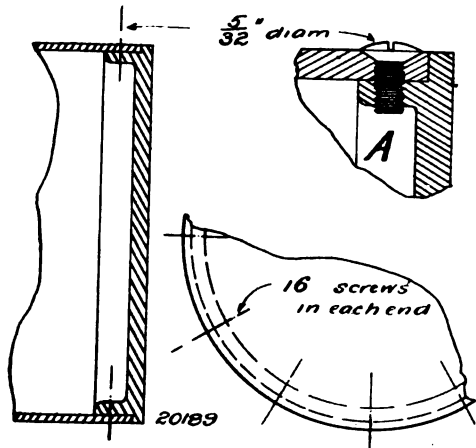
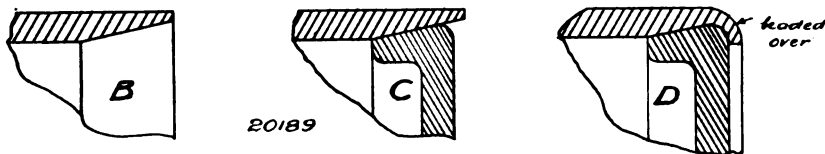

FIG. 2.—SECURING TURNED FLANGED CAST ENDS BY SCREWS.
FIG. 3.—FIXING BOILER ENDS.
a) Will the boiler stand 70 lbs. working pressure, with a 4-in.-diameter boiler, 3/64ths in. thick? (3) Will one Primus burner be enough for firing? (4) What should be water-level and size
We do not see why you should want the ends to be removable. If you obtain finished castings for the ends (Messrs. Stuart Turner, Ltd., Henley-on-Thames, and W. J. Bassett-Lowke & Co. Northampton, stock this size), you can have them turned as shown in Fig. 2, and to lessen the number of stays partly fix the ends by, say, about 16 brass screws, 5/32nds in. diameter, as shown at A, Fig. 2, sweating the joint with ordinary soft solder. About three stays, 5/32nds for 3/16ths-in. diameter, may then be used to prevent the bulging of the ends. Another method would be to turn or file the ends of the tube to a feather edge as at B, Fig. 3. Then turn the ends to correspond (as at C), and finally bead over the tube and sweat the joint as shown at D, Fig. 3, using three stays 1/4-in. diameter to secure the ends against possible accident. The beading-over may be done in the lathe or by hand with a hammer. (4) For 70 lbs. pressure use 1/16th-in. thick tube. (3) One "Primus" burner is not sufficient for 330 sq. ins. of heating surface, and if you do not require the power we would advise a slightly smaller boiler, say 3 ins. by 9 ins. fired by one burner. (4) The lowest water level should be one-third up the steam drum. The steam pipe should be 1/4-in. or 5/16ths-in. copper pipe. (5) No, there is no need to empty it if it is kept in doors.